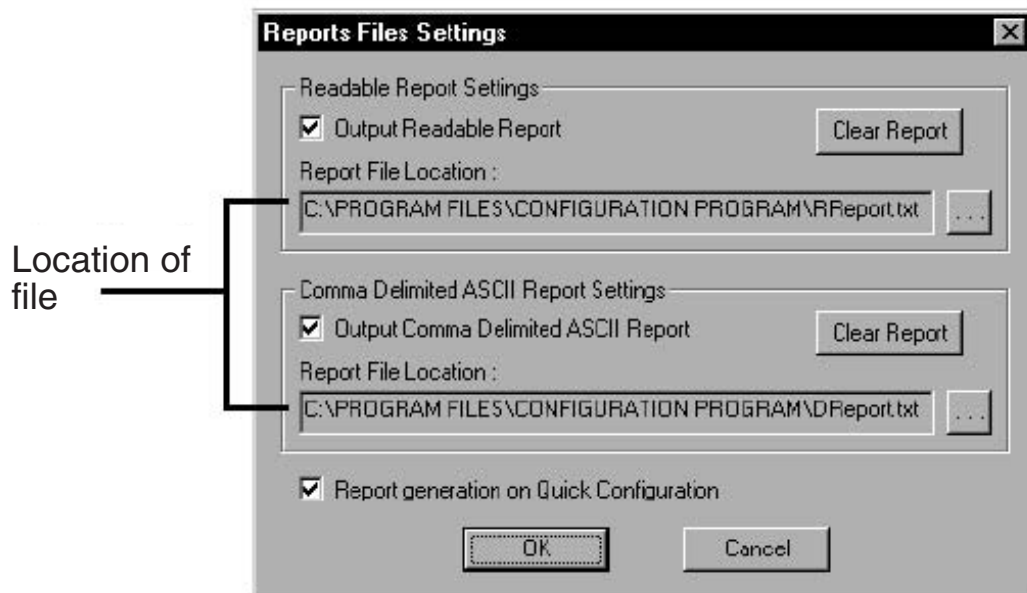

Fig. 13 — Report Settings
- b. Select the type of report desired or both. See Fig. 13.